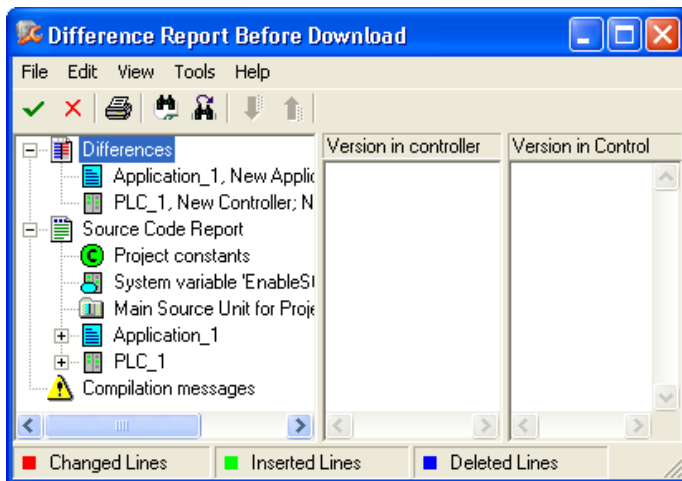

Figure 60. Difference Report Window.
5. Click the green check mark (see Figure 60) to continue.